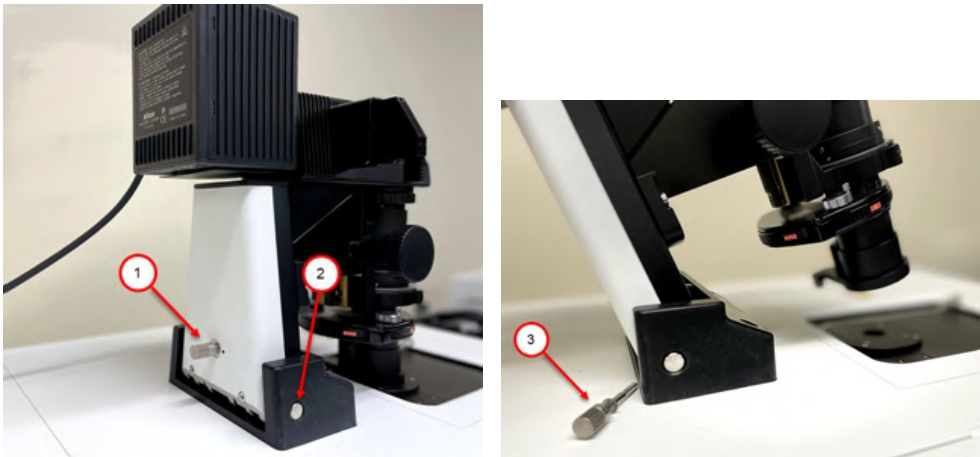

Figure 7-7: Hinge Release Knob and Hinge
15. If your instrument includes the Transmitted Light option, move the Transmitted Light tower back into position and replace the hinge release knob. See Figure 7-7.